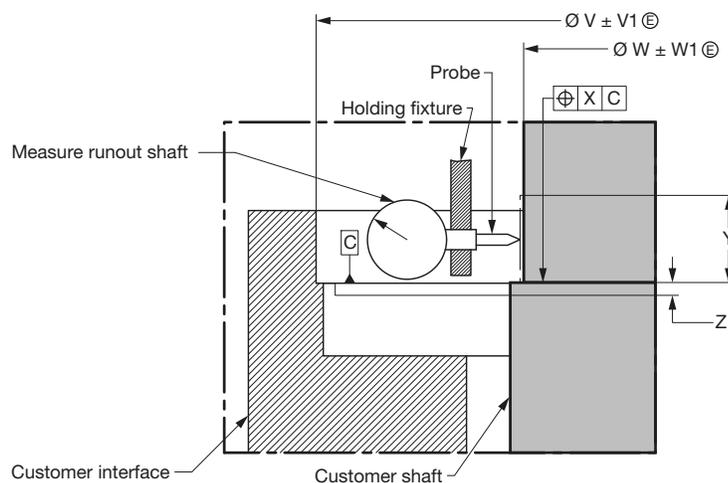

Fig. 2 - Rotor's shaft radial runout
The rotor's shaft runout can be measured as shown in Fig. 2.
**Important note: the encoder's user must take care to ensure the distance between the fixing reference of the stator and the fixing reference of the rotor (see Fig. 2 dimension named "Z").**